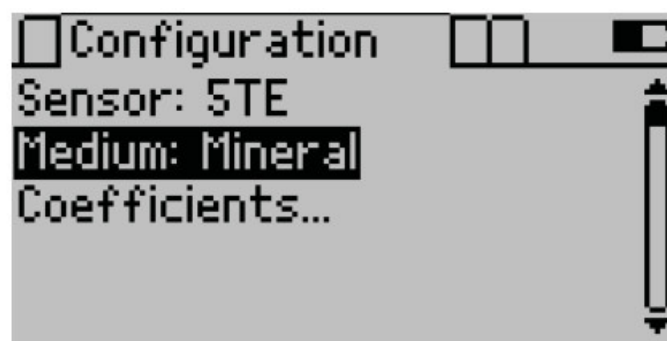

Figure 11 Toggle the medium type for calibration
4. Highlight Medium (**Figure 11**).